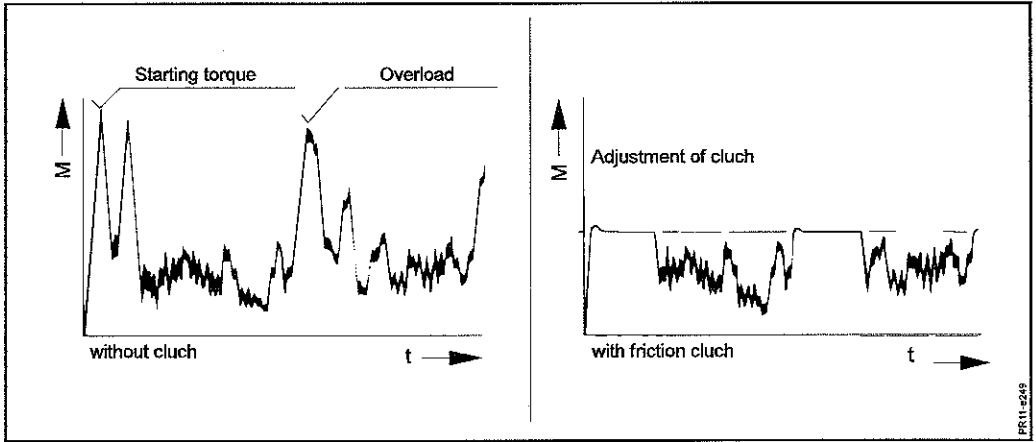

Fig.38
**Fig. 38** In order to ensure a long life for your tractor and machine, the machine has been delivered with **friction clutch** on the front PTO shaft. In the figure it is illustrated how the clutch protects the transmission against high torque peaks and at the same time it is able to maintain the torque level while slipping.